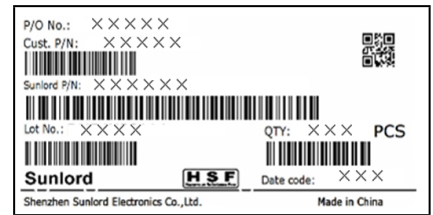

Fig.10.2.3-1
2)Marking on outer case (see**Fig.10.2.3-2~4**):